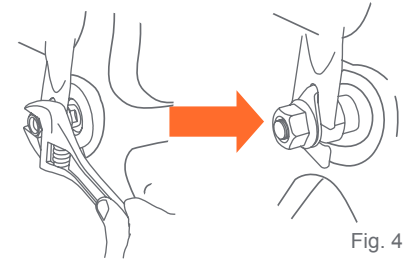

Fig. 4
- 4) • With the wheel in position, tighten the axle nuts and tighten with standard crescent, box, or open end wrench. You should feel significant resistance and the wheel should be held tightly in place (Fig. 4).